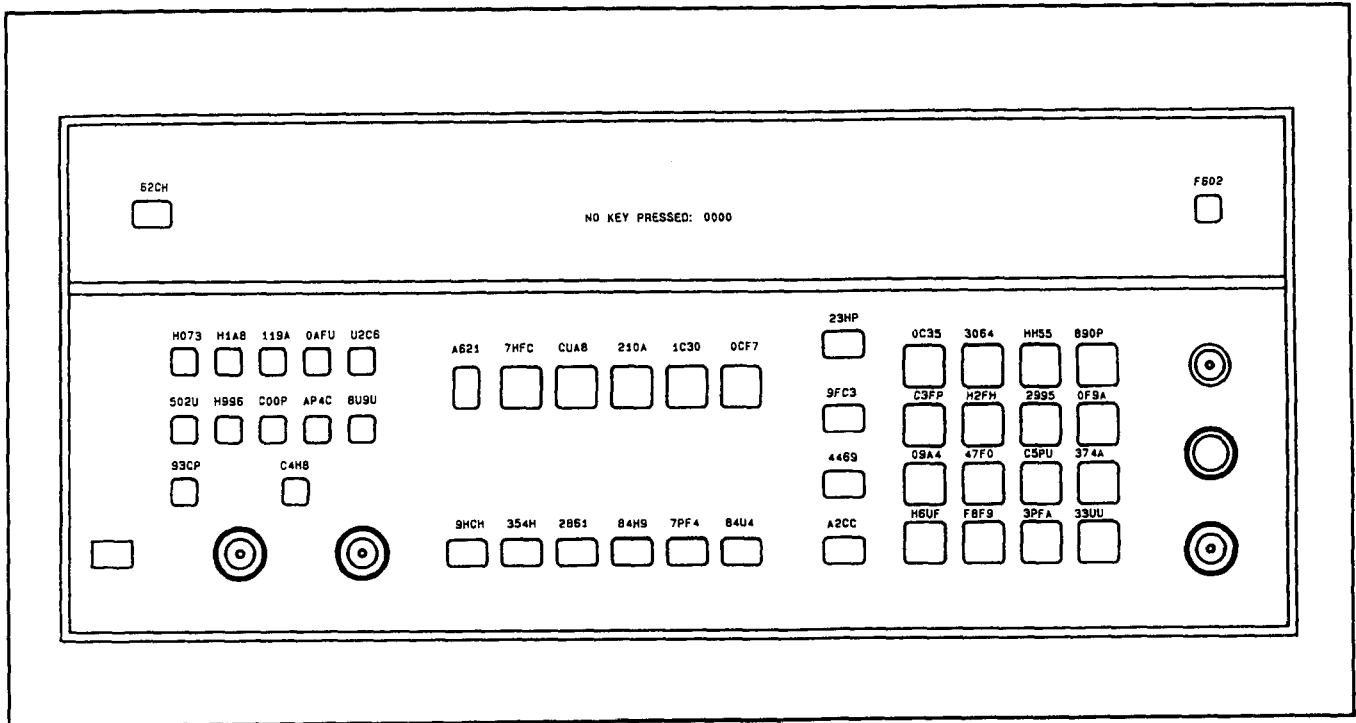

Figure 8F-33. Signatures, $\sqrt{3}$ Step 6
- Press the front-panel keys and note the signature. The signatures are documented in Figure 8F-33.